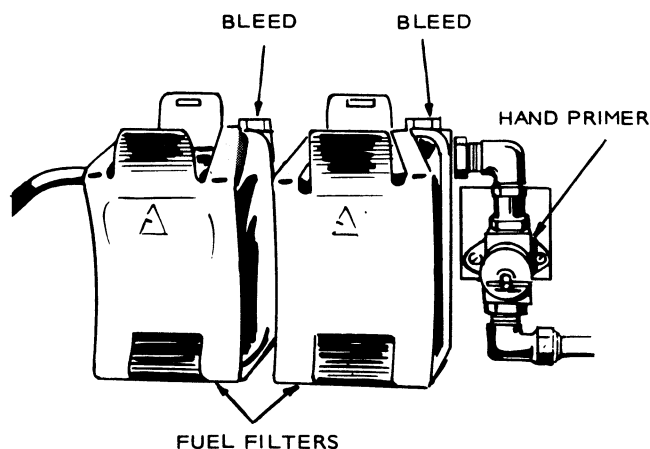

FIGURE 22. PRIMING FUEL SYSTEM
3. Loosen locking screw on top of hand primer plunger and release clamp. See Figure 22.